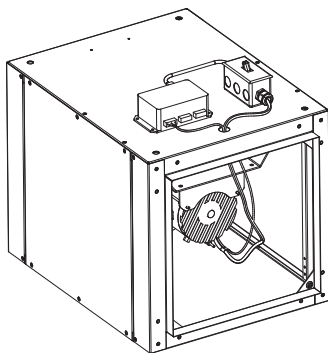

Figure 3
1. Refer to Figure 3, motor cover is removed for clarity. Fasten transformer directly to outside of unit using four #10 x 1/2 screws provided.